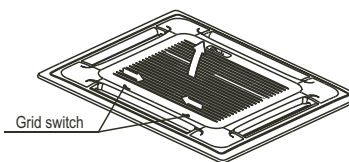

Fig. 4-9
- Slide two grill switches toward the middle at the same time, and then pull them up. (Refer to Fig.4-9)